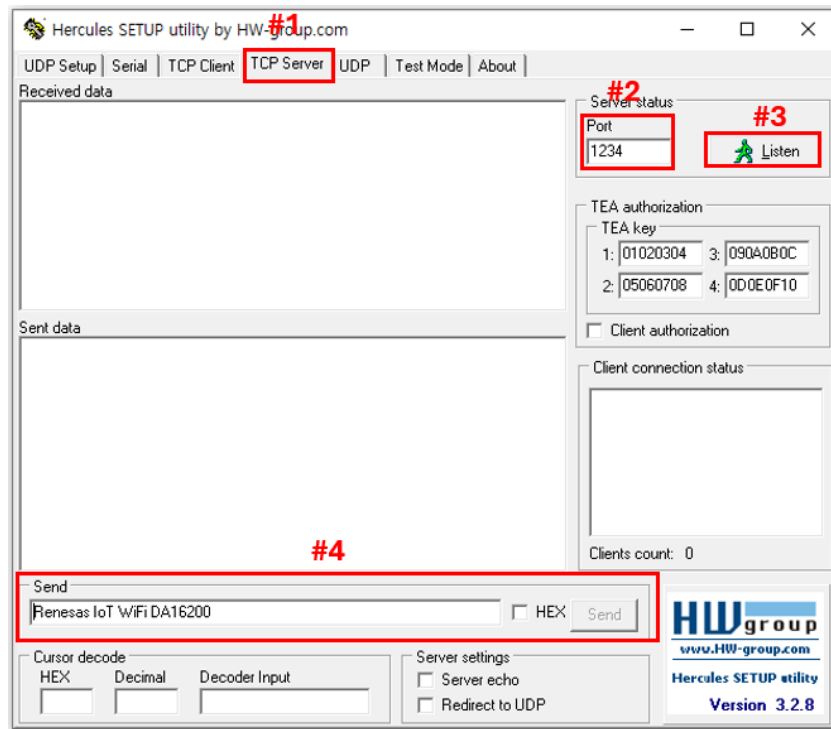

Figure 28: Hercules – TCP server socket setting
- a. Select TCP Server (#1, Figure 28).
- b. Enter the port number to be used (#2, Figure 28).
- c. Click Listen to start to Listen (#3, Figure 28).
- b. Send data (#4, Figure 28).